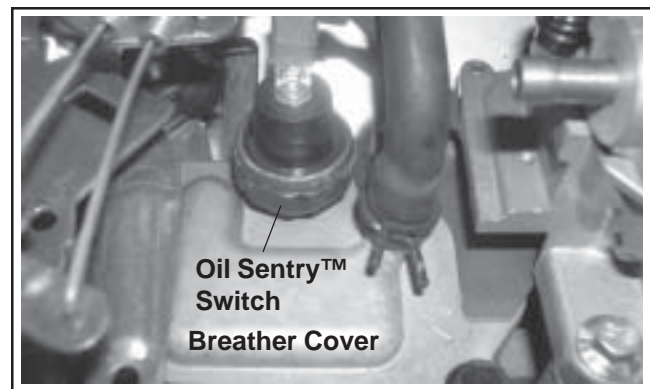

Figure 6-8. Location of Oil Sentry™ Switch (or pipe plug).
Some engines are equipped with an optional Oil Sentry™ oil pressure monitor switch. See Figure 6-8. If the pressure drops below an acceptable level, the Oil Sentry™ will either shut off the engine or activate a warning signal, depending on the application.
The Oil Sentry™ pressure switch is installed in the breather cover. See Figure 6-8.
2. Install the switch into the tapped hole in the breather cover. See Figure 6-8.